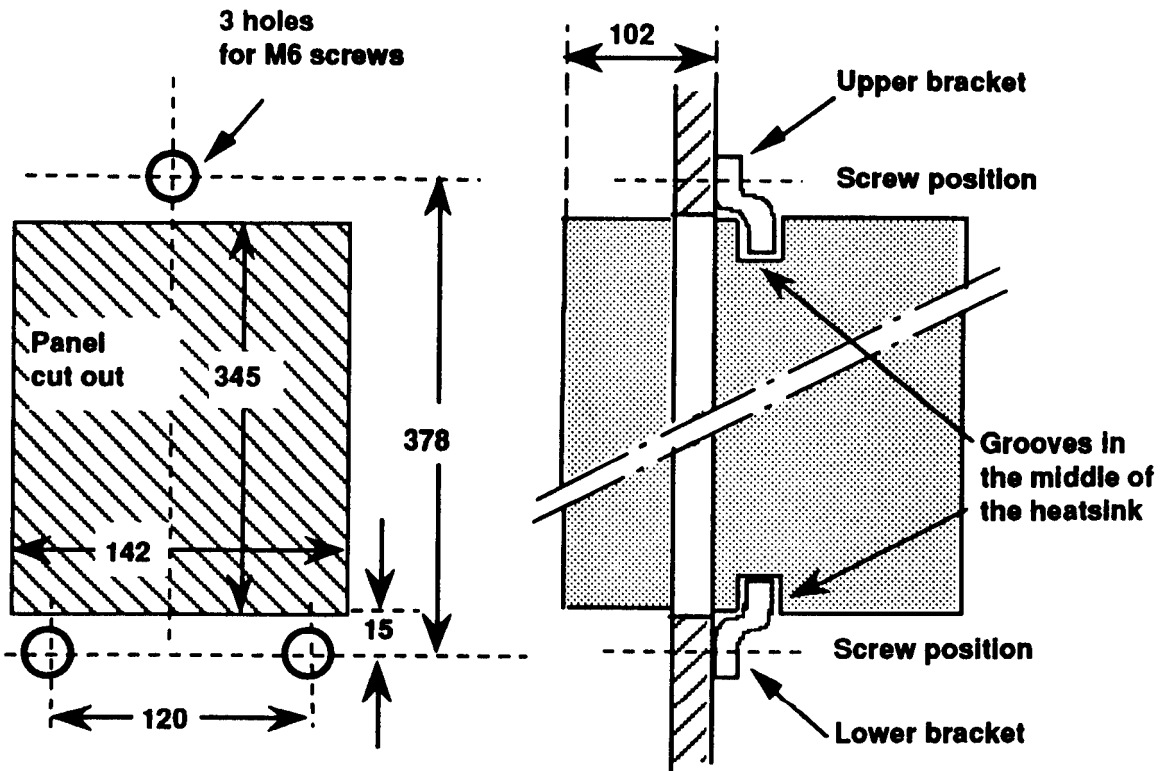

Figure 2.2. Drilling dimensions, panel cut-out and mounting of a convection cooled unit, through panel mounting
- a. Fix the lower bracket to the panel using **two M6** screws. Ensure that the drilling dimensions (see fig. 2.2) are respected.